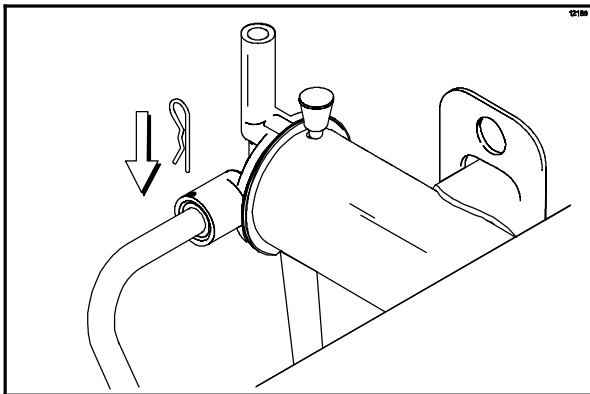

Figure 45
**Install the pump end of the mix feed tube and secure with the cotter pin.** Failure to follow this instruction could result in sanitizer spraying on the operator. (See Figure 45.)